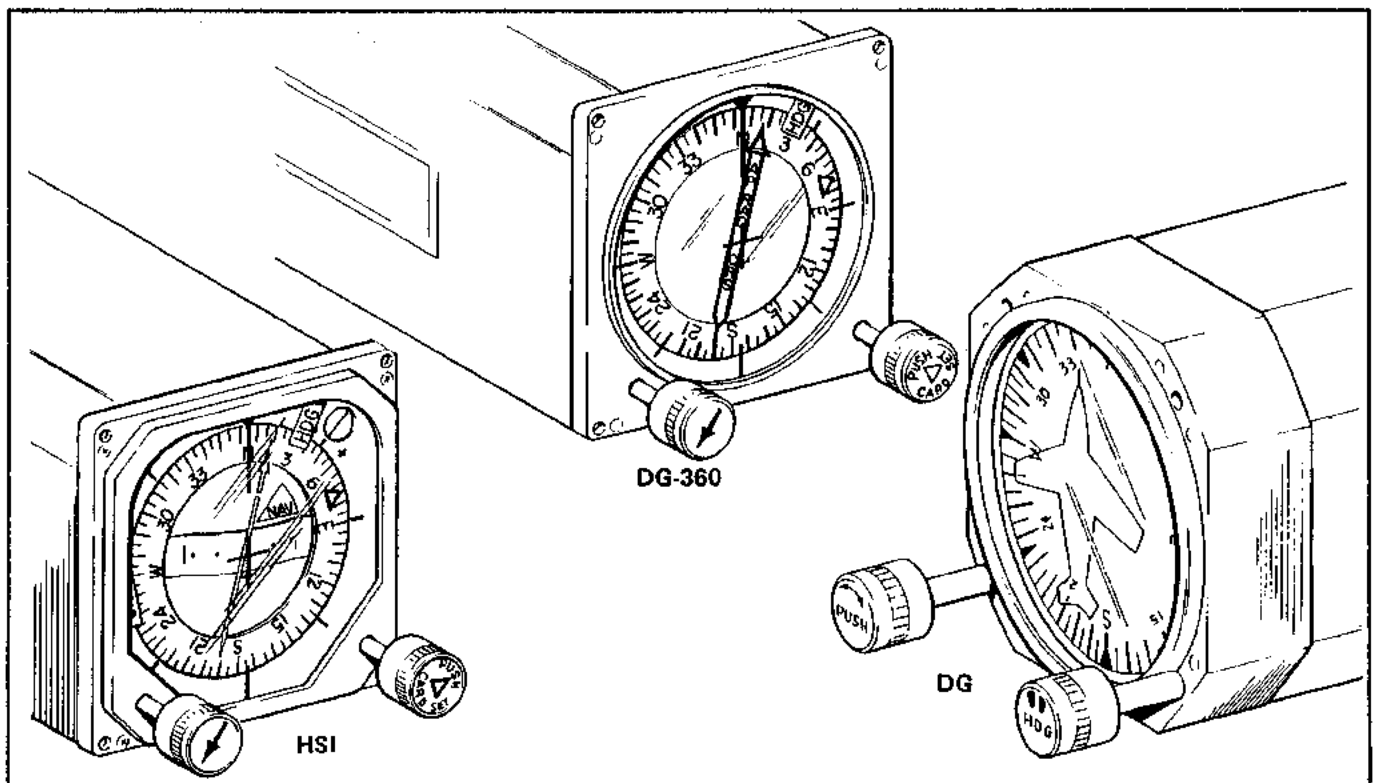

Figure 3-13. AltiMatic III C Directional Gyro/Horizontal Situation Indicator
**3-13. INSTALLATION OF DIRECTIONAL GYRO AND/OR HORIZONTAL SITUATION INDICATOR. (PA-23-250 Six Place) E & F Models. (Refer to Figure 3-13.)**